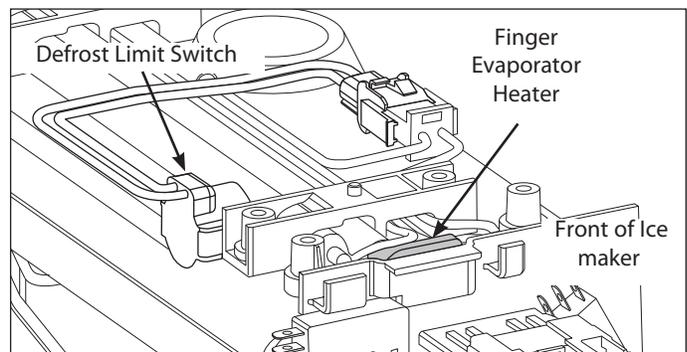

Figure 6-84.
9. To replace the defrost limit switch, disconnect the two wires to the defrost thermostat at the Molex™ connector and snap the clip off the evaporator holding the defrost thermostat in position. (See Figure 6-84)
10. To replace the finger evaporator heater, disconnect the Molex™ connector to the left of the finger evaporator and the connector below the EEV. Pull heater out of tube at the front of the ice maker assembly. (See Figure 6-84)